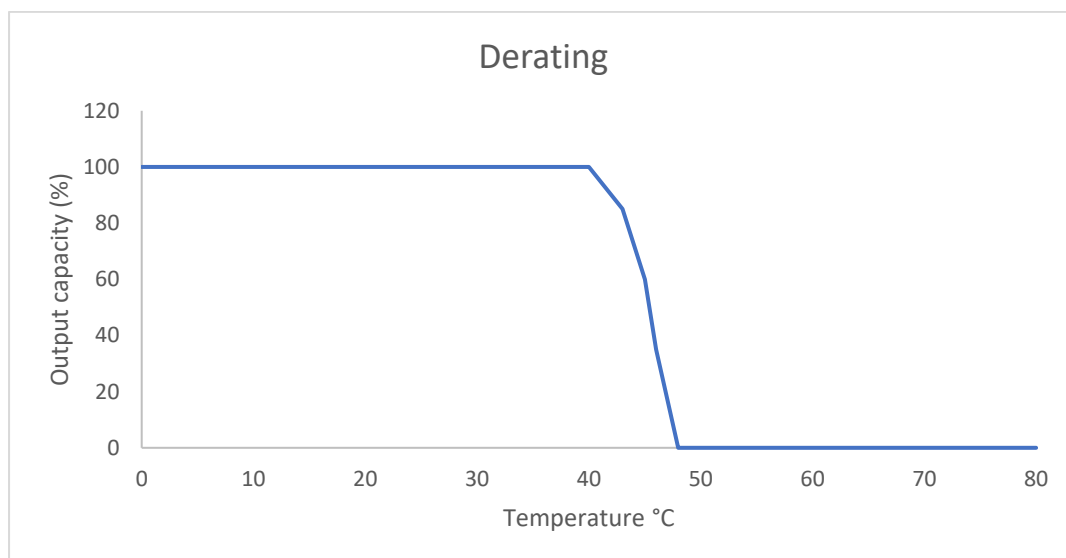

Figure 10: Derating coefficient in the function of the temperature
At the nominal operating temperature, the HPQ-module works at 100% of the nominal capacity (see technical data in Chapter 10). However, if the installation temperature **is higher**, the HPQ-module will reduce the maximum output current automatically. The general capacity above the nominal temperature is presented in a generic model in Figure 10*.
***Figure 10 is for illustration purposes only.** The actual operation capacity depends on the actual installation environment and the load current harmonics spectrum.